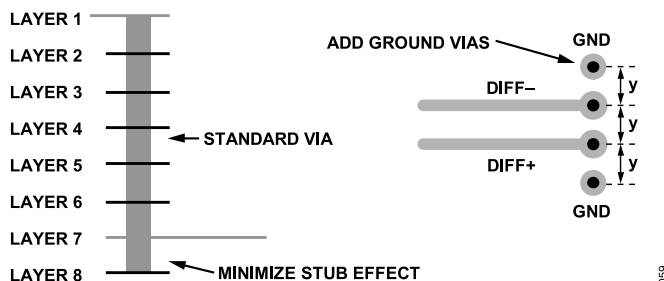

Figure 58. Minimizing Stub Effect and Adding Ground Vias for Differential Stripline Traces
- If using standard vias, use the maximum via length to minimize the stub size. For example, on an 8-layer board, use Layer 7 for the stripline pair (see Figure 58).
- For each via pair, place a pair of ground vias adjacent to them to minimize the impedance discontinuity (see Figure 58).